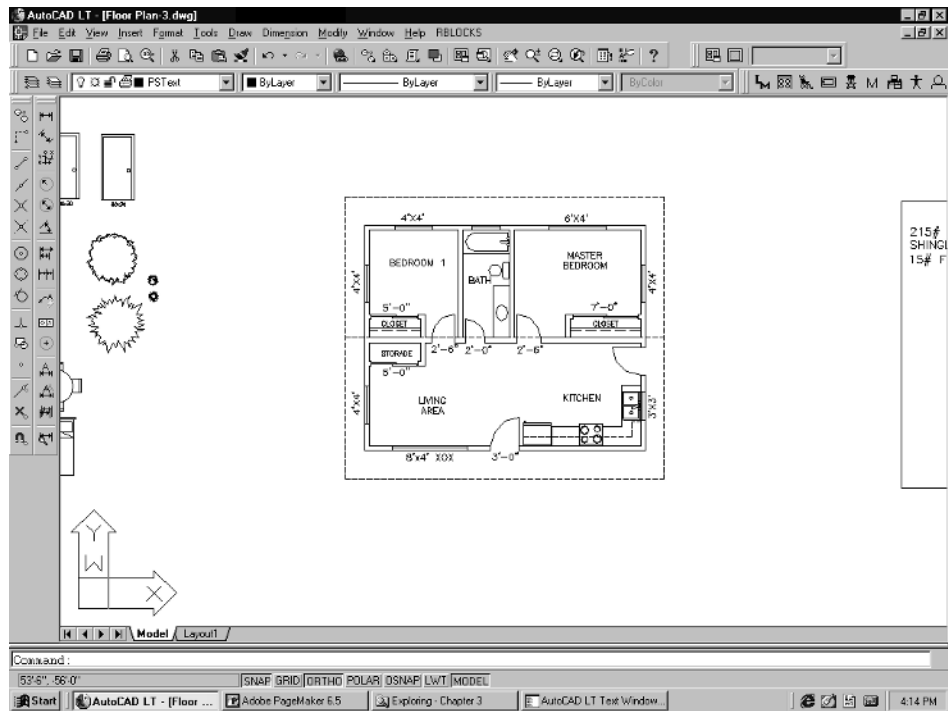

Figure 4-6
1. **Zoom|In** to the floor plan, as in Figure 4-6.